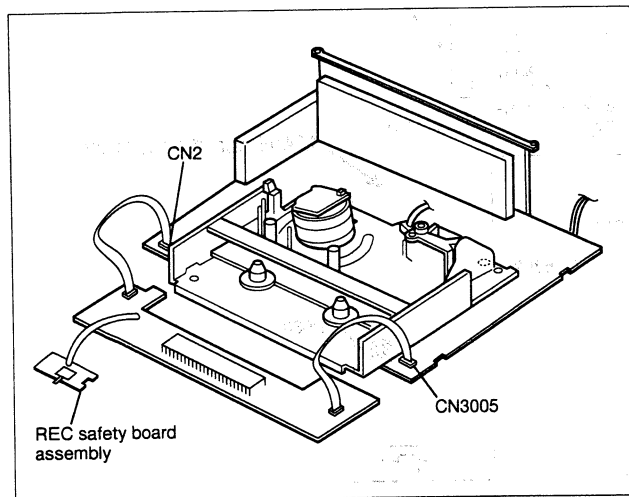

Fig. 1-4-3
- (7) Remove the SW/Display board assembly and the REC safety board (See 1.3 DISASSEMBLY/ASSEMBLY METHOD), then place them on the front side of the Main deck assembly and the Main board assembly which have been disassembled by procedure (6), and insert the flat wires into CN2 and CN3005 of the Main board (see Fig. 1-4-3).
1.4.3 Cassette loading and ejection methods in the "SERVICE POSITION" (See Fig. 1-4-3).
- (1) Insert a cassette halfway in the Cassette holder assembly.
- (2) Set the switch on the REC safety board assembly to ON (by pressing the switch).
- (3) As soon as the cassette starts to be loaded, set the switch on the REC safety board assembly to OFF (by releasing the switch).
- (4) Now the desired operation (recording, playback, fast forward, rewind, etc.) is possible in this status (the status shown in Fig.1-4-3).
NOTES: • When performing diagnostics of the tape playback or the recording condition in the "SERVICE POSITION", enter the desired mode before turning the set upside down, and do not change the mode when performing diagnostics while the set is placed upside down. If you want to switch the mode, turn the set to the normal position (the status shown in Fig.1-4-3).